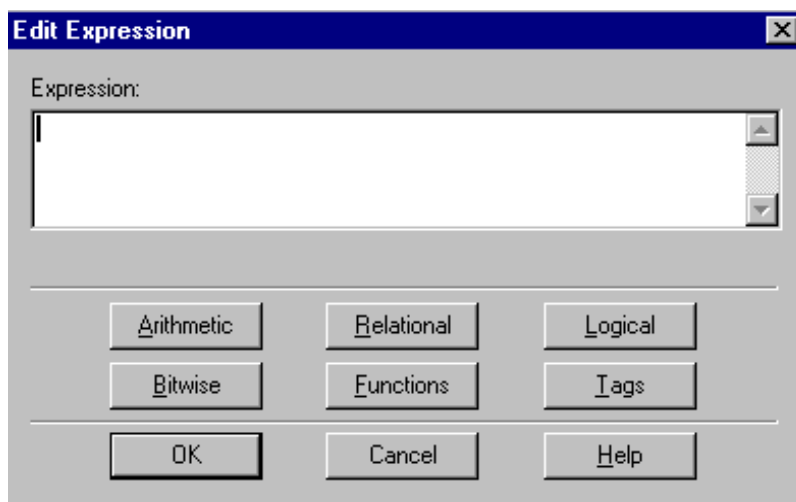

Figure 10-8: Edit Expression Dialog Box
1. In the Property Inspector, click Tags menu to open the Edit Expression dialog box (Figure 10-8).